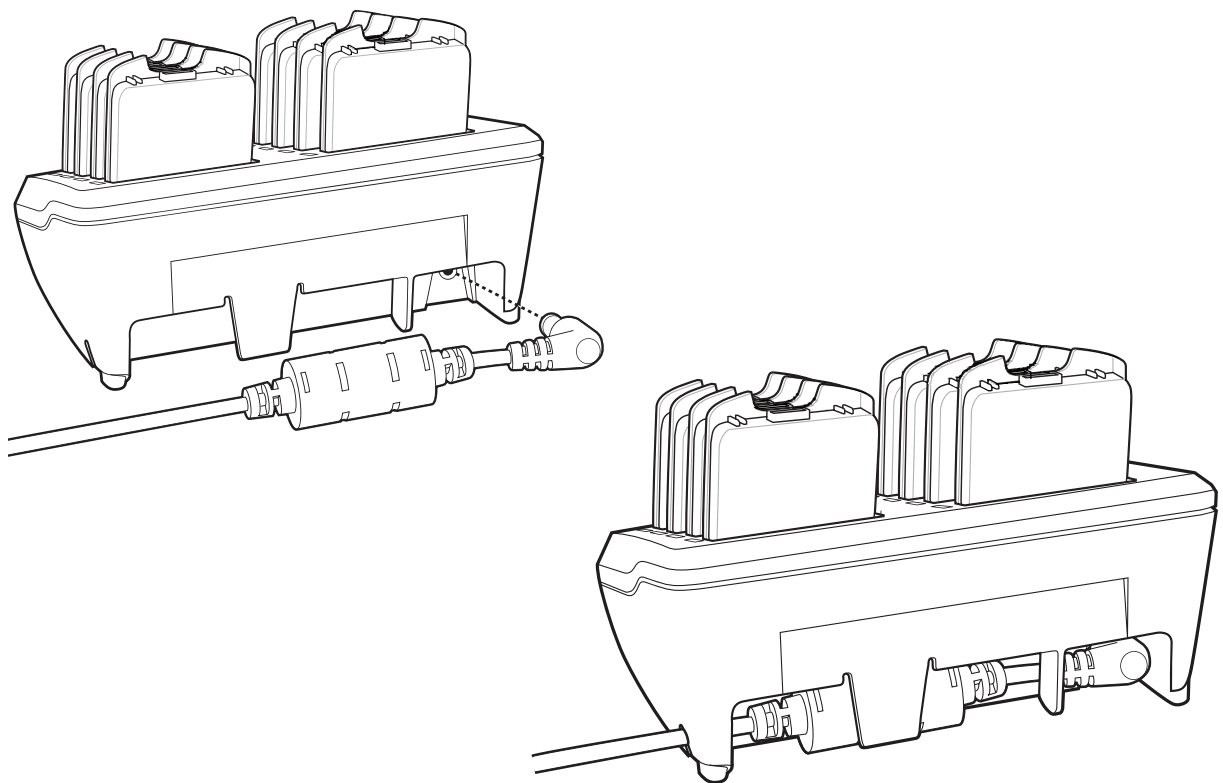

Figure B-3 Connecting Power
1. Connect the power supply to the power port on the back of the charger as shown in Figure B-3.